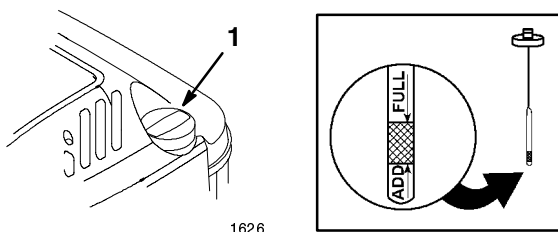

Figure 7
Before each use, make sure that the oil level is between the *Add* and the *Full* marks on the dipstick (Fig. 7).
2. Clean around the dipstick (Fig. 7).
6. Read the oil level on the dipstick (Fig. 7).